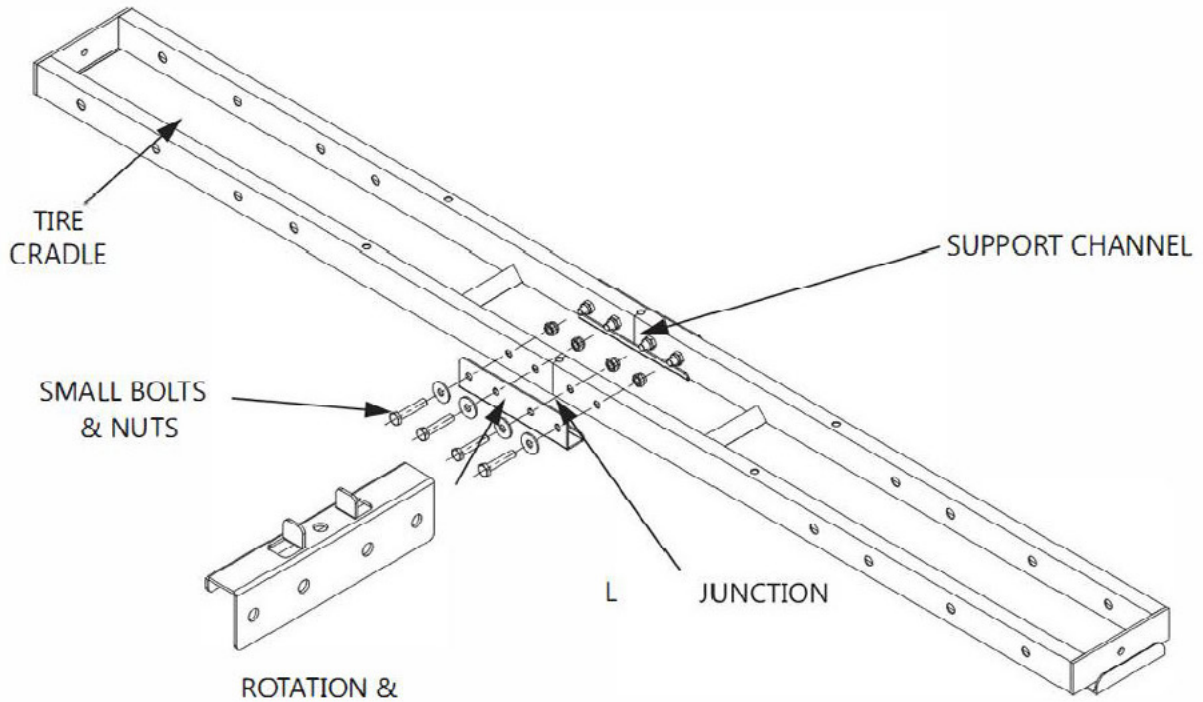

FIG. 1
Step1: Place two tire cradles on L type junction plate. Attach with small bolts & nuts (See FIG.1)